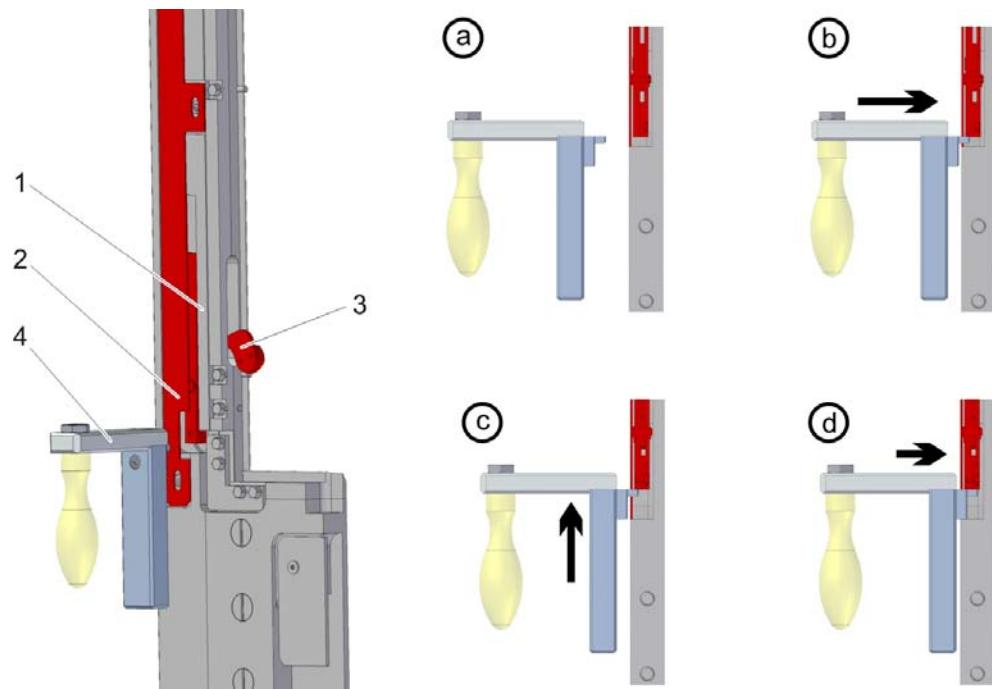

Abb. 6-3 *Unlock the substrate holder*
- 1 Insert the unlocking tool (4 at Fig. 6-3, 159) to the stop of the provided pocket below the locking mechanism (2) (step a - b).